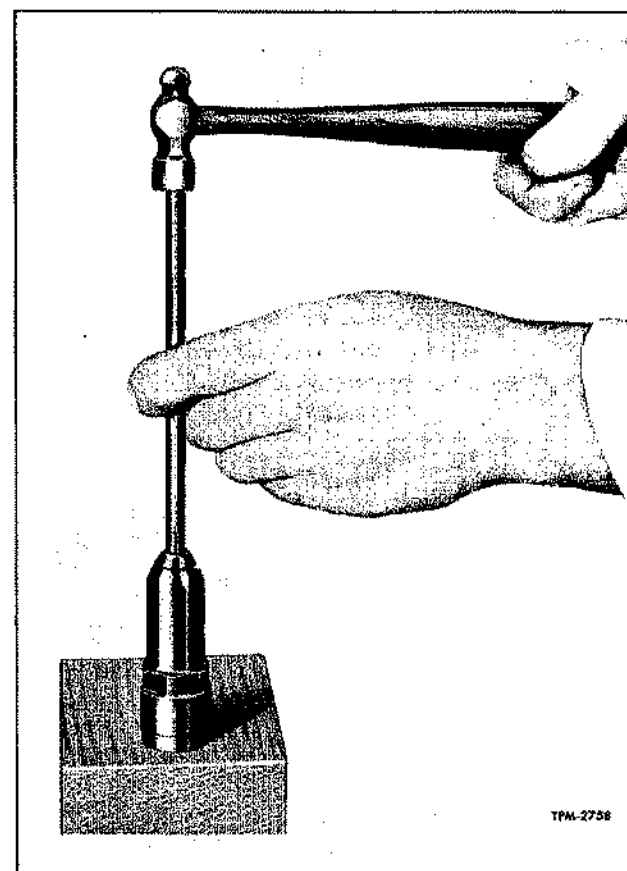

Figure 20—Removing Spray Tip From Injector Nut
6. When an injector has been in use for some time, the spray tip, even though clean on the outside, may not be pushed readily from the nut with the fingers. In this event, support the nut on a wood block and drive the tip down through the nut, as shown in figure 20, using recommended tool.